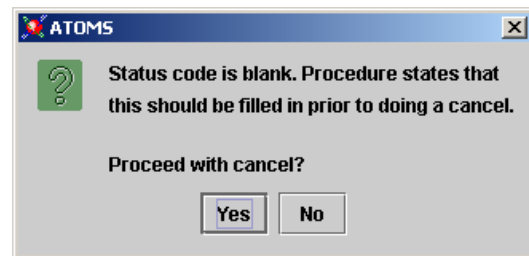

Figure 5-11. Blank Status Code
- 4) Click on the **Ok** button. If the Status Code is blank, a message appears reminding the user that TODO policy requires a Status Code on a Transaction before it can be cancelled (Figure 5-11). Click **Yes** to proceed or **No** to abort.